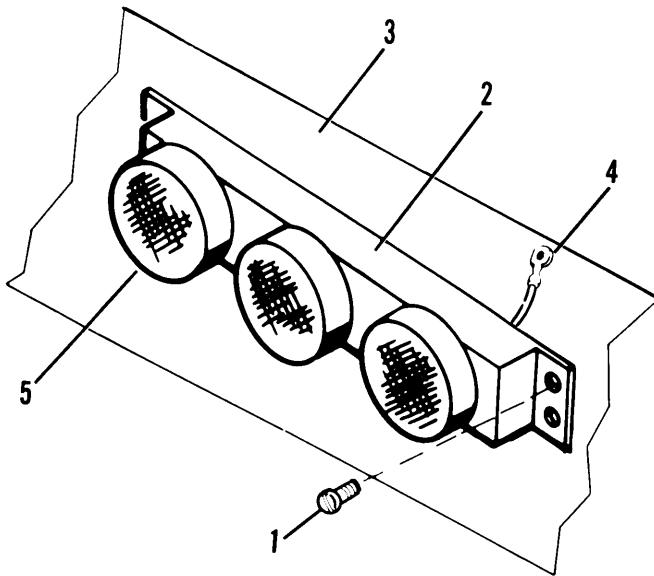

Figure 4-14. Bar Lamp Assembly (M871 only)
- (1) Remove four screws (1, fig. 4-14) and ease bar lamp assembly (2) from rear of semitrailer (3).
- (2) Remove ground strap (4) from screw (1).
- (3) Disconnect wiring.
- (1) Turn light (5, fig. 4-14) approximately one quarter turn counterclockwise and pull the light (5) straight out from the bar assembly (2). Remove the other two lamps the same way.
- (1) Install light (5, fig. 4-14) and rotate one-quarter turn clockwise. Install the other two lights to the assembly the same way.
- (1) Connect wiring.
- (2) Install ground strap (4, fig. 4-14) to one of the screws (1).
- (3) Install bar lamp assembly (2) into position and secure with four screws (1) 1
- (4) Connect electrical power and test for proper operation.